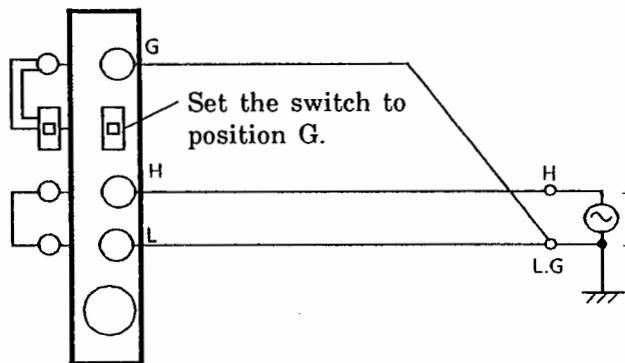

Figure 5.2
- (2) For high-sensitivity measurement, warm up the recorder for at least an hour.
If the recorder is likely to be affected by noise, etc. in high-sensitivity measurement, or if it is likely to be affected by common mode voltage, use the guard (G) terminal and when wiring, use shielded cables as where as possible. Figs. 5.2 thru 5.4 show general wiring examples.